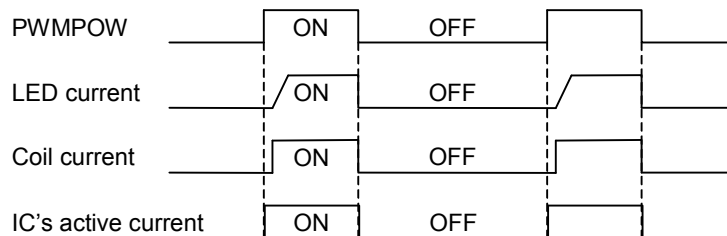

Fig.41
2) Power control PWM control is controlled by providing PWM signal to PWMPOW, as it is shown Fig.41. The current setting set up with PWMDRV logic is chosen as the H section and the current is off as the L section. Therefore, the average LED current is increasing in proportion to duty cycle of PWMPOW signal. This method is, because IC can be power-off at off-time, the consumption current can be suppress, and the high efficiency can be available, so it makes it possible to brightness control until 50μs (MIN1% at 200Hz). And, don't use for the brightness control, because effect of power ON/OFF time changeover is big under 50μs ON time and under 50μs OFF time. There is no effect of ON/OFF changeover at 0% and 100%, so there is no problem on use.